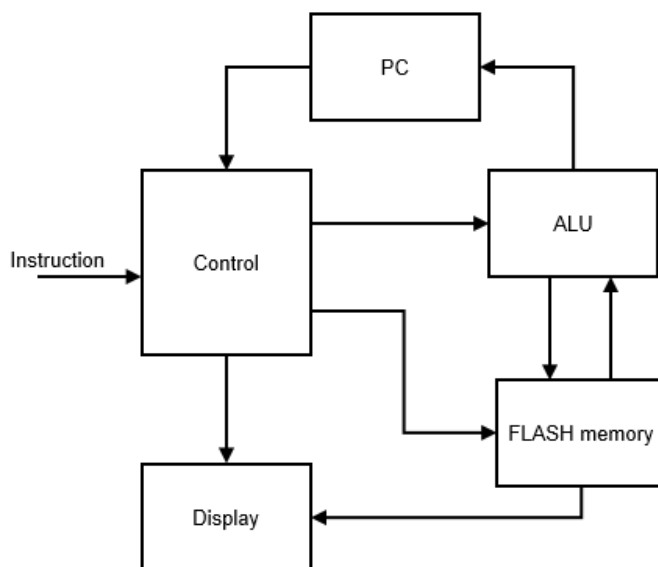

Figure 22: Block overview of processor
In this lab you will create a simple processor that can compute 8 operations. Figure 22 shows the components of a simple processor. The processor consists of an ALU, a FLASH memory, a control unit, a program counter (PC), and a display.